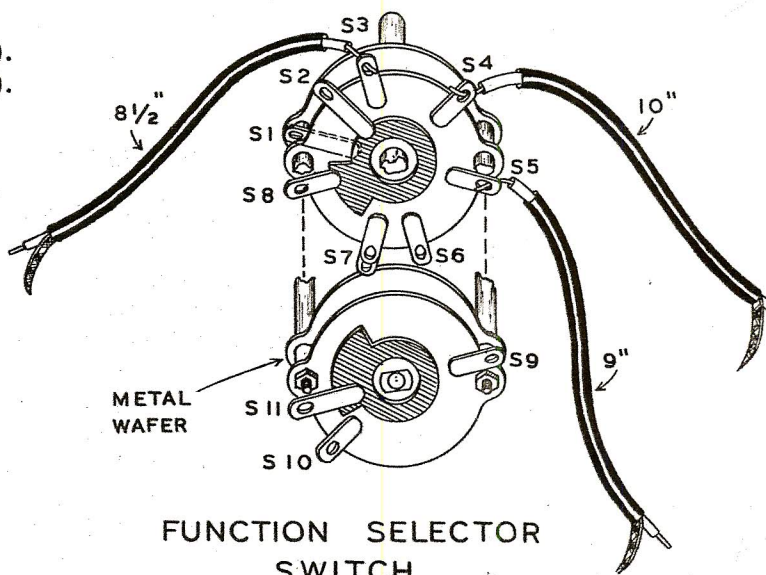

Figure 10
- (✓) Connect the end with the braid removed to switch S4 (S). See Figure 10.
- (✓) Connect the end with the braid removed to switch S3 (S).
- (✓) Connect the center conductor of the long cable from S4 to terminal strip H4 (S) and the adjacent braid to H2 (S). Dress as shown.
- (✓) Connect the center conductor of the cable from switch S3 to terminal strip G1 (S) and the adjacent braid to G2 (S).
- (✓) Connect a bare wire from panel solder lug BA (S) to switch S1 (S).
- (✓) Run a bare wire from switch S8 (NS) to S11 (S). (Use sleeving.)
- (✓) Connect a bare wire from panel solder lug BB (S) to switch S8 (S).
- (✓) Connect the free wire appearing through grommet AE (from BJ6) to switch rear wafer S10 (S).
- (✓) Install a 500  $\mu\text{mf}$  ceramic condenser (green-black-brown or marked) from terminal strip K3 (S) to switch S9 (S). (Use sleeving.)